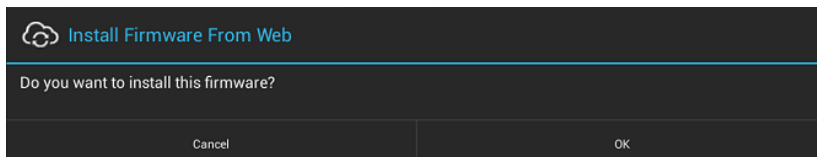

FIG. 99 System Prompt - Install Firmware From Web
4. Select the firmware version that will be used to update the panel and press **Install Update** to initiate the firmware update. The panel will prompt you to verify this action - Press **OK** to proceed with the update (FIG. 99):